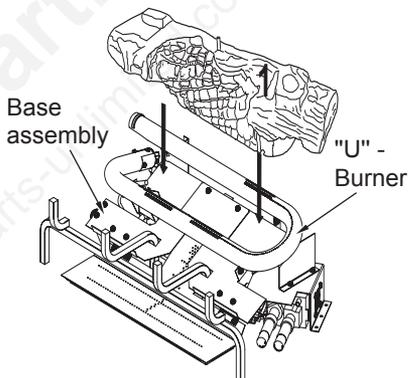

Figure 35 - Installing Log # 1
1. Place the rear log (#1) on base assembly as shown in Figure 35. Log will fit over right end of burner and rest in middle of U-burner.